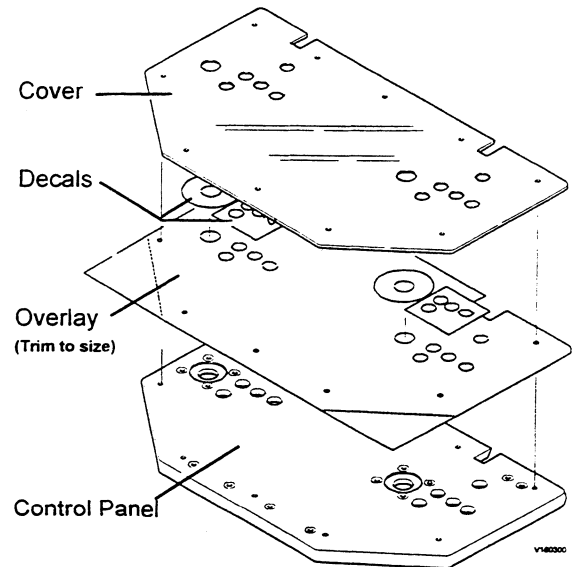

Figure 1: Overlay Installation
6. If there is an additional control panel cover, Figure 1 (such as plastic or lexan) that will be utilized, cut any additional holes using the same template.
Control Panel Overlay Installation (See Figure 1)
14. Install the control panel cover, FIG.1. (if required).